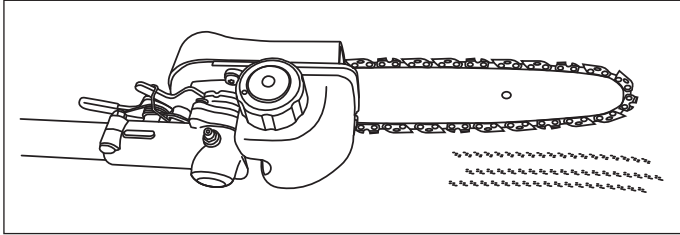

Fig. 9c
- b). Start the multi tool; keep it running at medium power and check if the chain oil is delivered as shown in the figure. (See Fig. 9c)